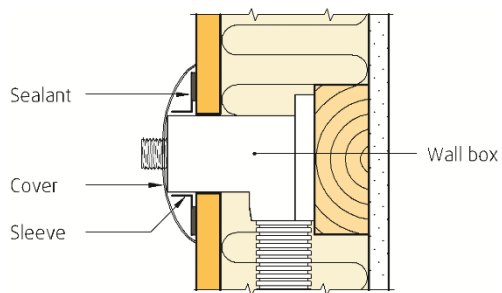

Fig. 3
- Sleeve delivered with the wall box is to be attached to the bathroom panel using one of the sealants listed in table 3. See Figure 3.